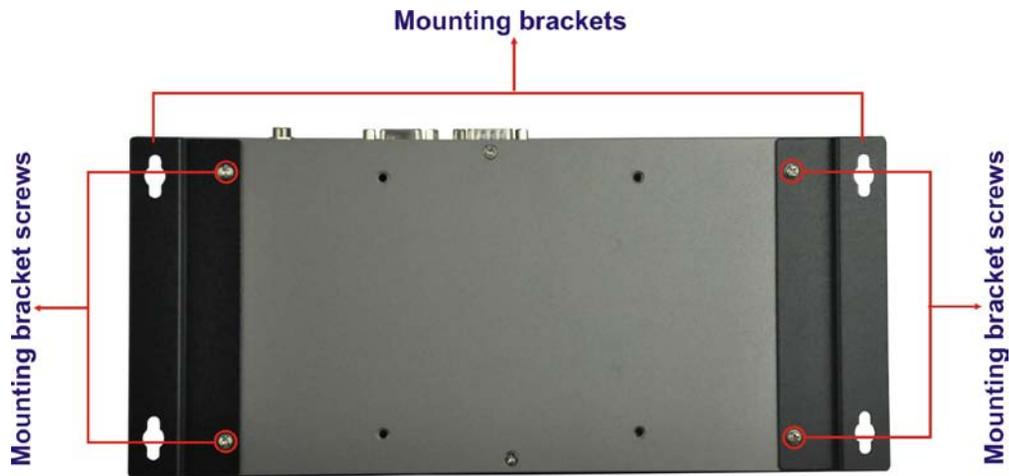

Figure 3-6: Mounting Bracket Retention Screws
Step 2: Align the two retention screw holes in each bracket with the corresponding retention screw holes on the sides of the bottom surface (**Figure 3-6**).
Step 3: Secure the brackets to the system by tightening two retention screws into each bracket (**Figure 3-6**).